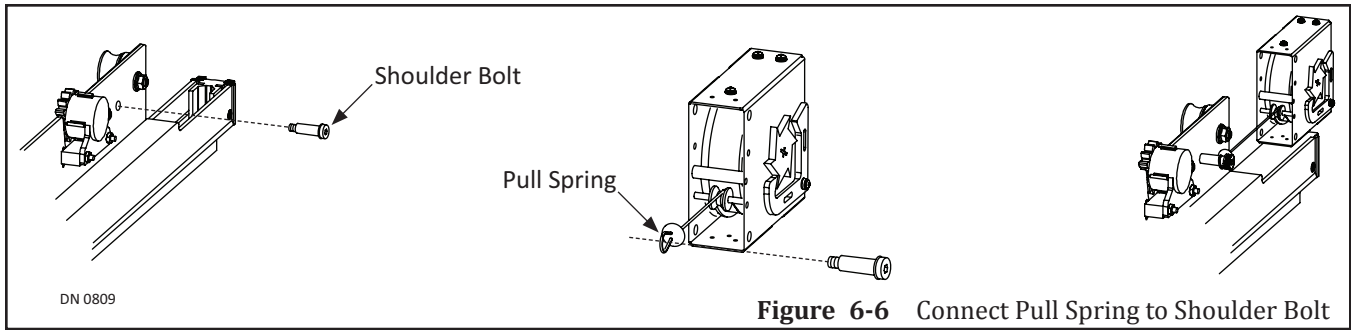

Figure 6-6 Connect Pull Spring to Shoulder Bolt
2. Go to the Shoulder Bolt located between (2) Hanger Rollers closest to the Strike Jamb. Please see Figure 6-6.